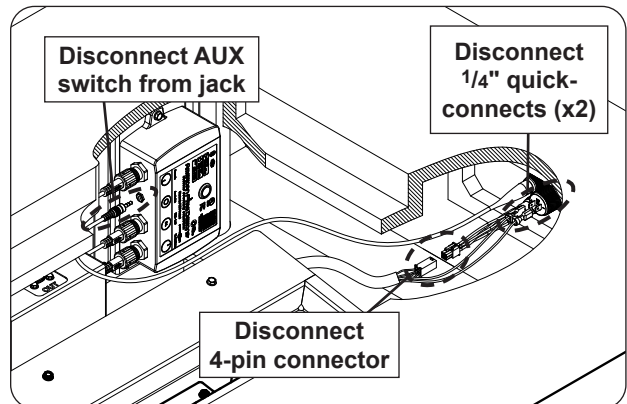

Fig. 33-3 Disconnect AUX switch, connector, and two quick connects
3. Disconnect the AUX switch, 4-pin connector, and two  $\frac{1}{4}$ " quick-connects (see Fig. 33-3).